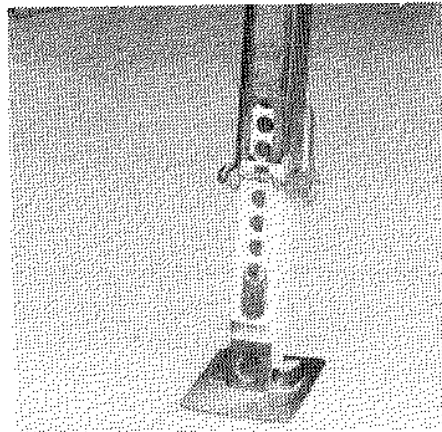

Fig. 3
4. Now release spring loaded, self-storing stabilizer jacks. Base of this jack is welded to frame. Grip jack and push toward center of camper approximately 5/8". It will require a fair amount of effort to release and swing down as in Fig. 3. Now extend the jack "foot" by pushing it to the ground. More tension can be placed on the jack feet by using the long jack handle supplied in each unit. Ensure that too much force is not applied to the jack handle. Doing so may cause the holes in the jack legs to expand, breaking out the dividers and causing adjustment problems in the entrance door. One notch should be sufficient. **DO NOT** place excessive weight on these jacks as they are intended to stabilize, not support the camper. The camper should be level.
7. Loosen any tension on stabilizer jacks by pressing adjustment tab on jack downward. Using both hands, slide telescoping foot upwards fully. Pull jack downward 5/8" and swing towards center of camper until spring loaded catch slips into slot. Fig. 3.